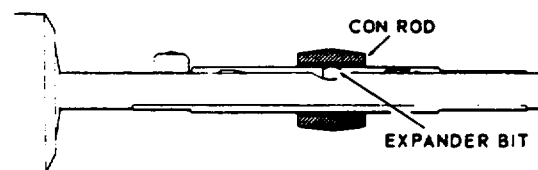

FIGURE 47
- (1) Select proper size AL or ALH mandrel for the bushing to be expanded: Assemble according to instructions on Page 29, and insert expander unit in spindle chuck.
- (2) ADJUSTING THE MACHINE. Set belt for 200 RPM spindle speed. Turn Cutting Pressure Control to Number 8. For con rods and spindle bodies, adjust Work Support to take the torque.
- (3) Direct a stream of honing oil onto the mandrel. DO NOT USE DRY.
- (4) EXPANDING THE BUSHING. After the bushing has been pressed into the bore, place the part on the polished Expander Bit (Figure 47). Push Stop button. Depress Pedal and turn the Feed Dial to the right until the mandrel has expanded to the inside diameter of the bushing. Release Pedal.
- (5) Push HONE START button. Depress Pedal and stroke the part over the Expander Bit, advancing the Feed Dial until the Bit can be felt as the bushing passes over it.
- (6) Advance the Feed Dial two to three numbers and slowly stroke the part across the Expander Bit several times to expand the bushing into the bore of the part.